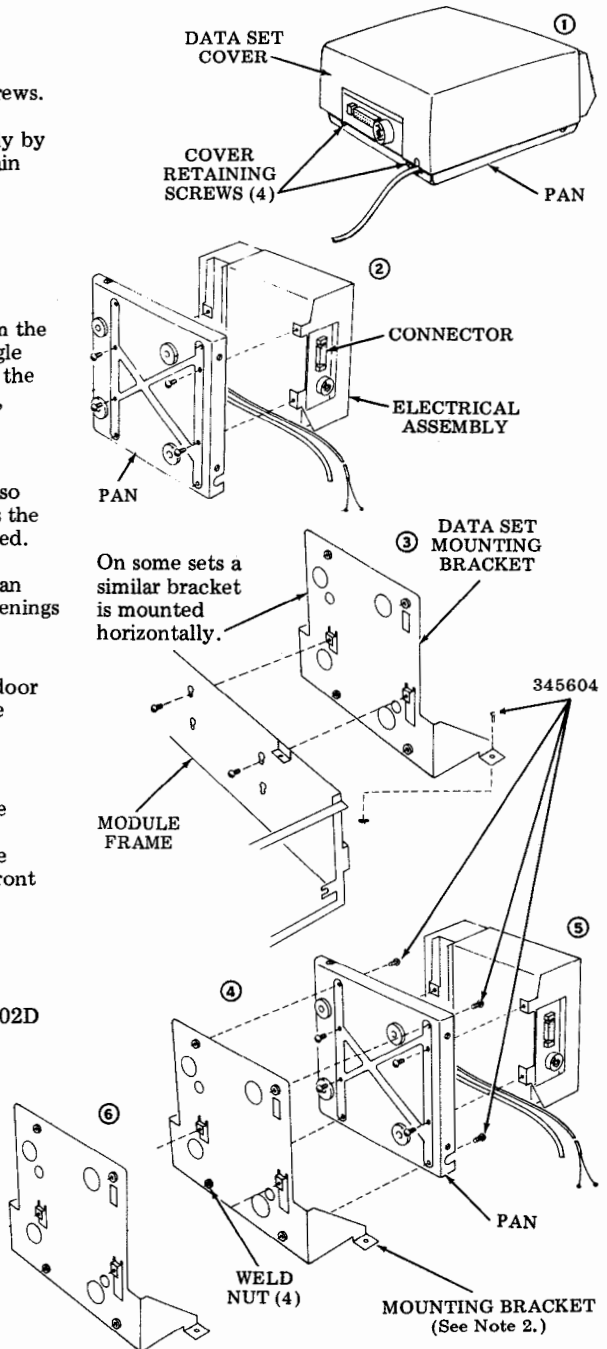

Fig. 76
I. Data Set Mounting (Fig. 76 and 77)
① Remove data set cover by loosening four screws.
② Separate the pan from the electrical assembly by removing four screws from the bottom (retain screws).